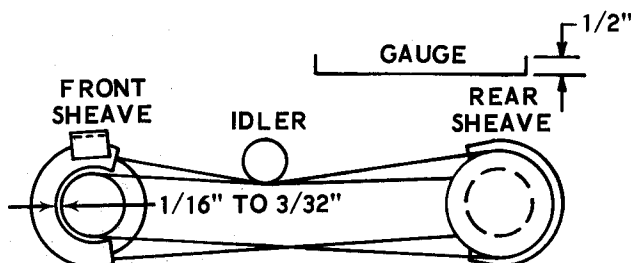

Figure 12
(2) Proper adjustment of belt covers is illustrated in figure 12. The  $1/16$  to  $3/32$ -inch dimension is for the entire belt cover circumference and it applies to both belt covers. The belts are to be in the engaged position when checking. To accomplish this, place the idler in the low range position and hold the high range belt at the position in which the idler would hold it. As an aid in checking the  $1/16$  to  $3/32$  dimension, a gauge should be used. The gauge is made up of a  $1/16$  wire 6 inches long with a  $1/2$ -inch leg on each end as shown.